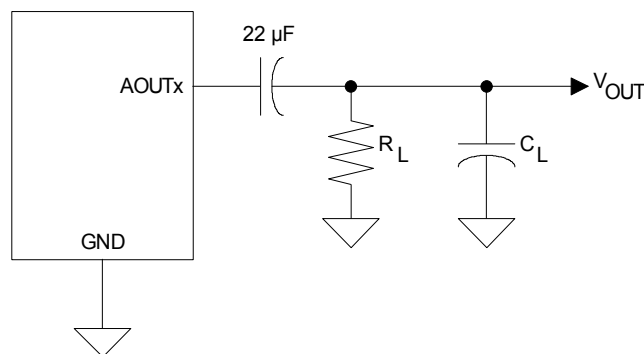

Figure 5. Equivalent Output Test Load
20. Loading configuration is given in Figure 5 below.